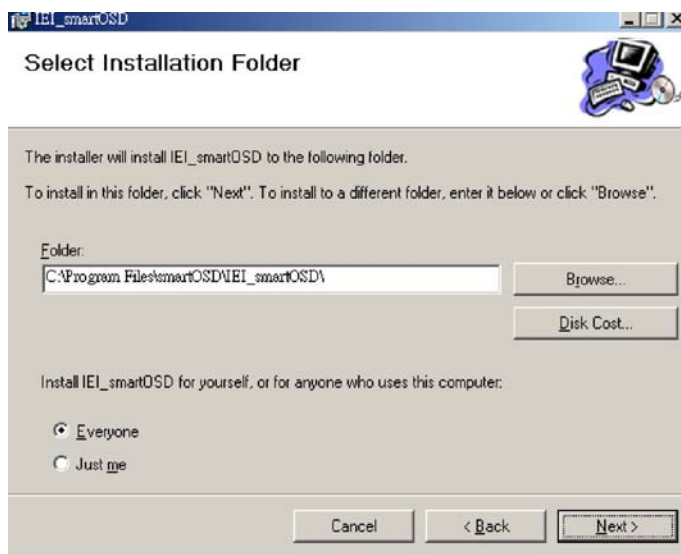

**Figure C-2: smartOSD Welcome Screen**
**Step 3:** The welcome screen shown in Figure C-2 appears.